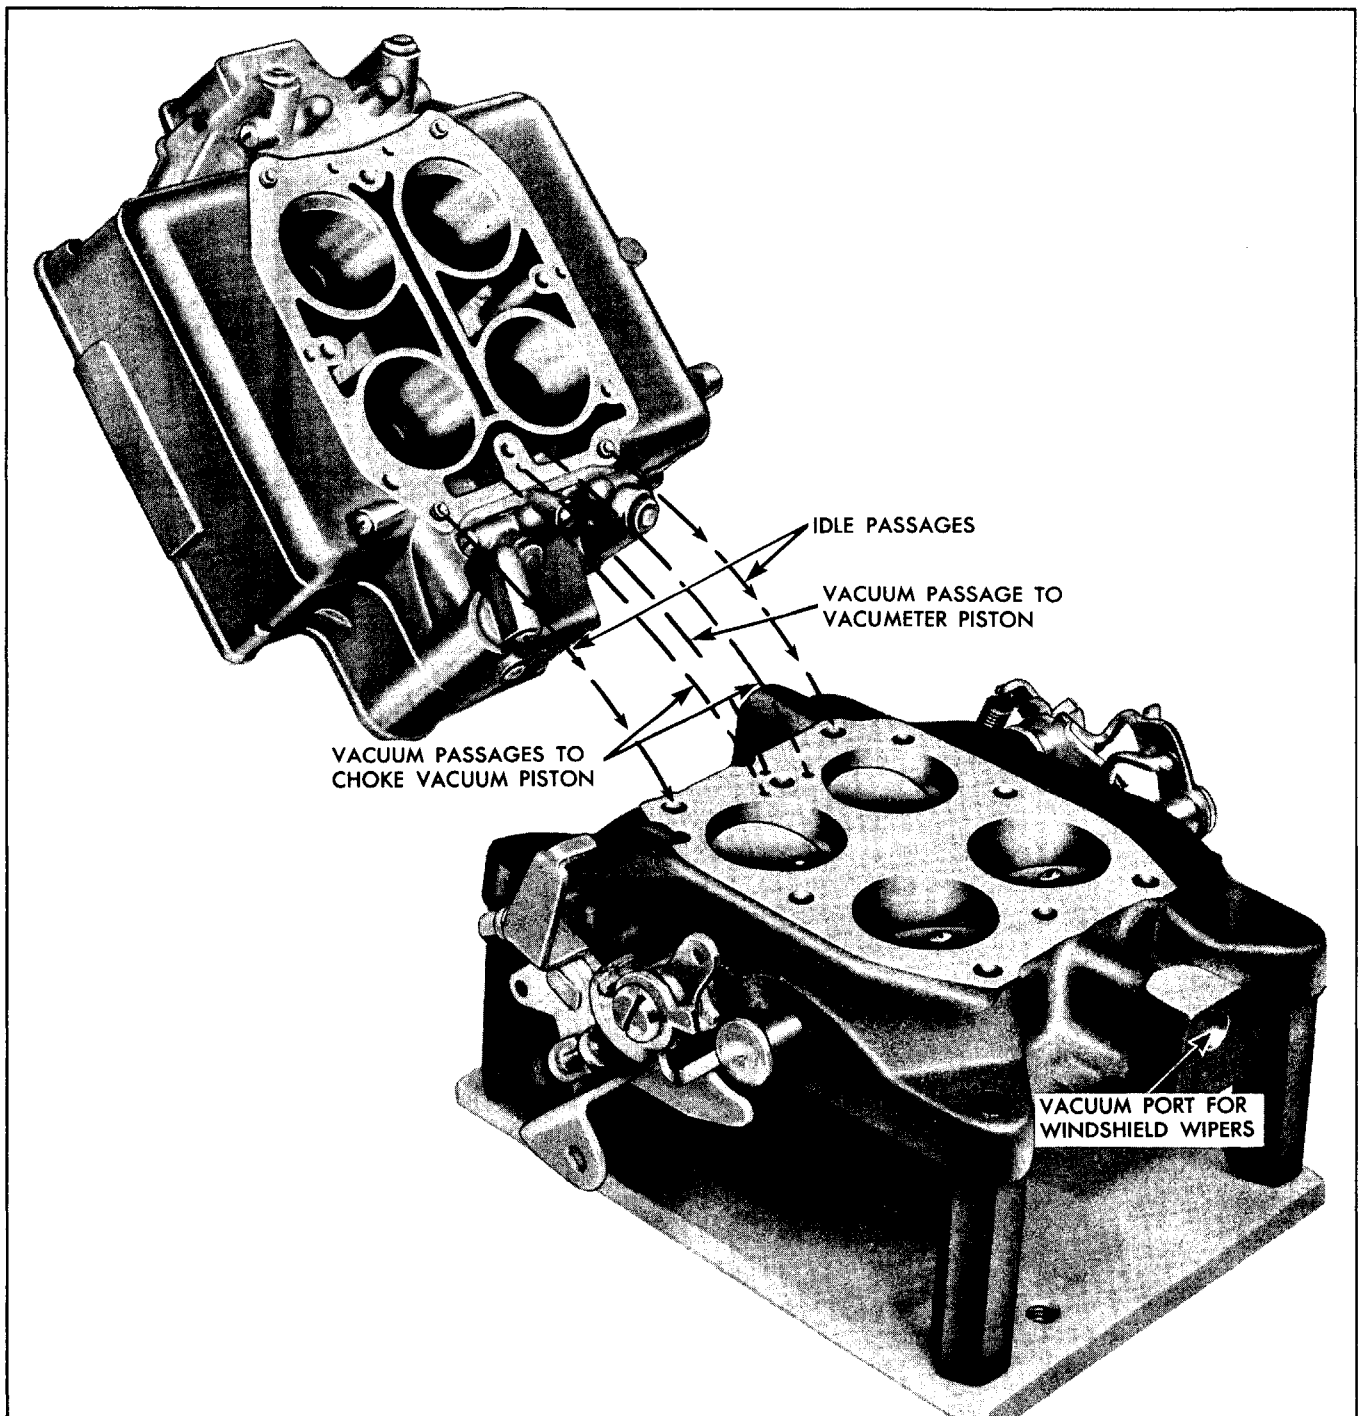

Fig. 6B-54 Passage Identification—Body to Throttle Flange
2. Blow out all passages (Figs. 6B-53-6B-55) in casting with compressed air and blow off all parts so they are free of cleaner (be sure to follow instructions furnished with cleaning solution). **CAUTION:** Do not use drills or wire to clean out jets or ports as this may enlarge the opening and affect carburetor operation.